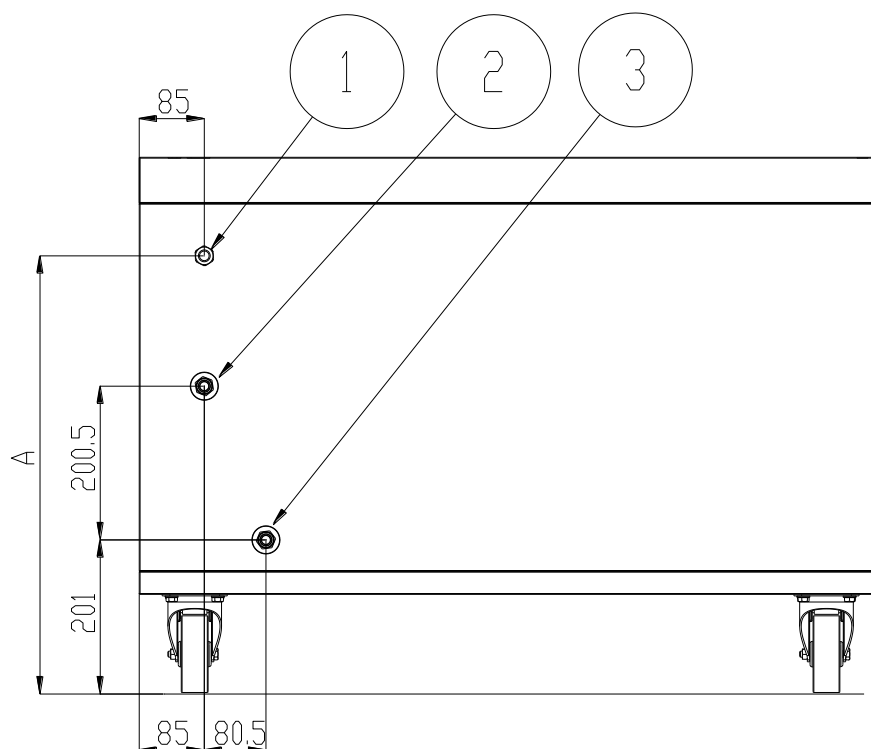

Fig.4.1 Connections position
For the electrical connection refer to Fig. 4.1 where the position of the electrical input (1) is indicated.
See Figure 4.1 for the exact position of the water in-and outflow.